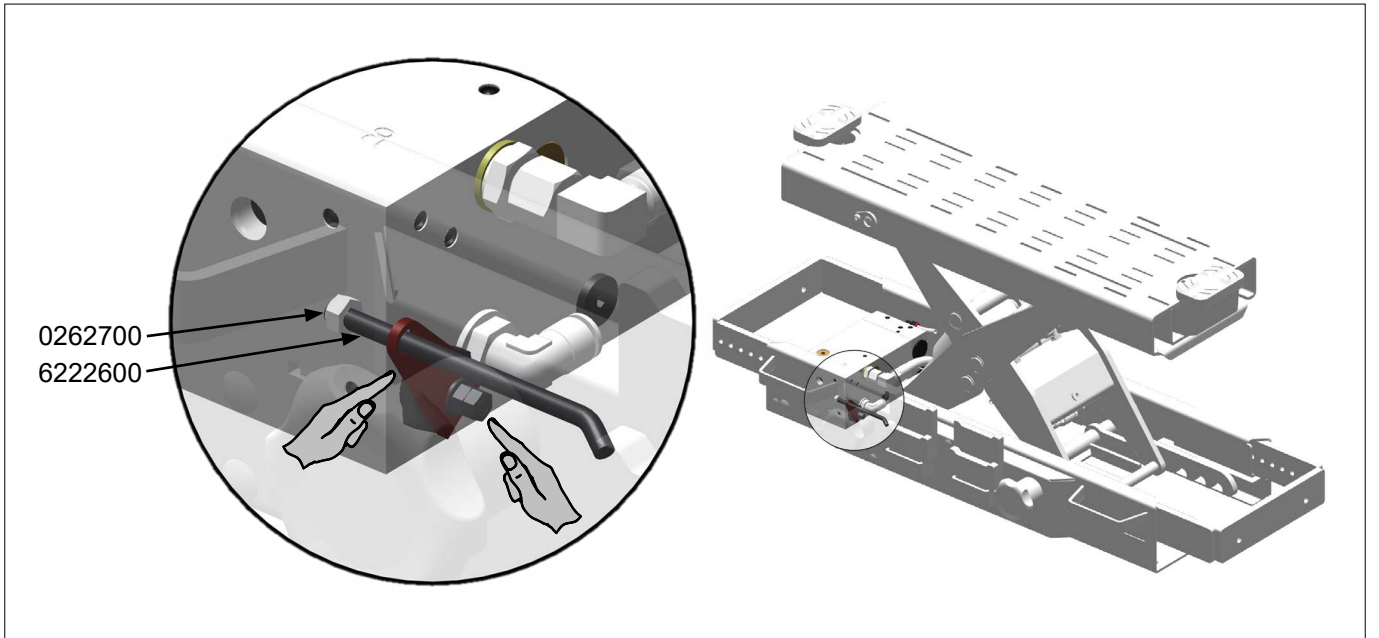

Fig.20
2. The jacking beam cannot lift enough: Check that release handle is on “neutral” and can move freely. Both release 6222600 (adjusted with nut 0262700) and release arm Fig.20 (adjusted with 2 counternuts on the pump’s release spindle) must be loose to allow the release valve to close tightly. Also check the air supply: minimum 8,5 bar and 500 l/min.
4. The jacking beam continues to lower after letting go of the release handle: Ventilate the hydraulic cylinder by screw (10).